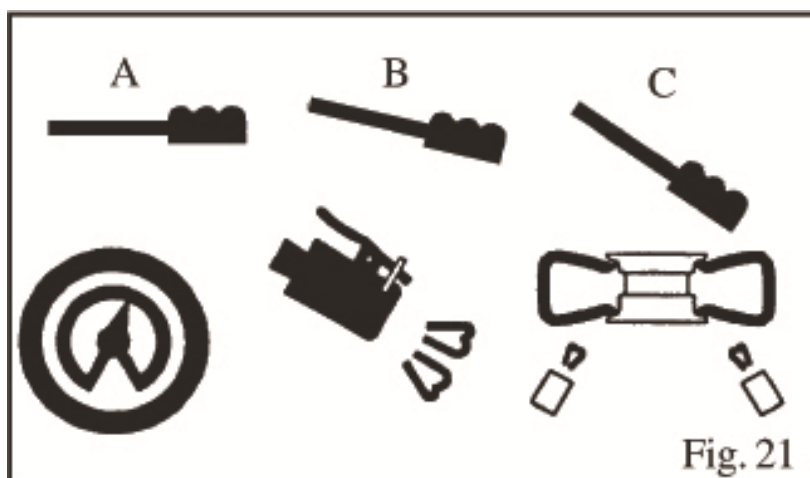

Fig. 21
- Press the pedal down to intermediate position (B – Fig. 21)
- If the bead of tire is not well seated, due to a strong bead, lift tire manually until the upper bead seats against the rim, then press pedal all the way down (C-Fig. 21). A strong jet will be released through the nozzles in the slides and this will help the bead seal.
- Release the tires; set the pedal in the intermediate position (B – Fig. 21) and continue to inflate the tire with short jets of air and constantly checking the pressure between air jets until the required pressure has been reached.